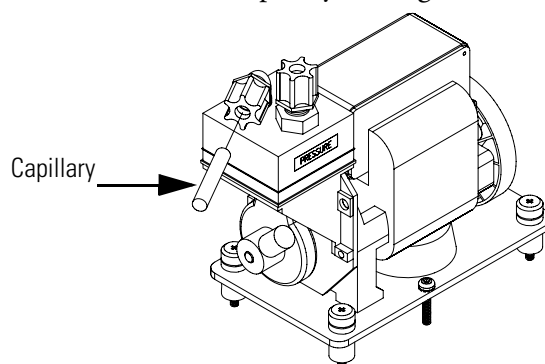

Figure 5-4. Replacing the Pump Capillary
For instruments with the photometer option, use the following procedure to replace the pump capillary (Figure 5-4).
2. Loosen the fitting connecting the capillary to the pump and remove the capillary. (Figure 5-4).